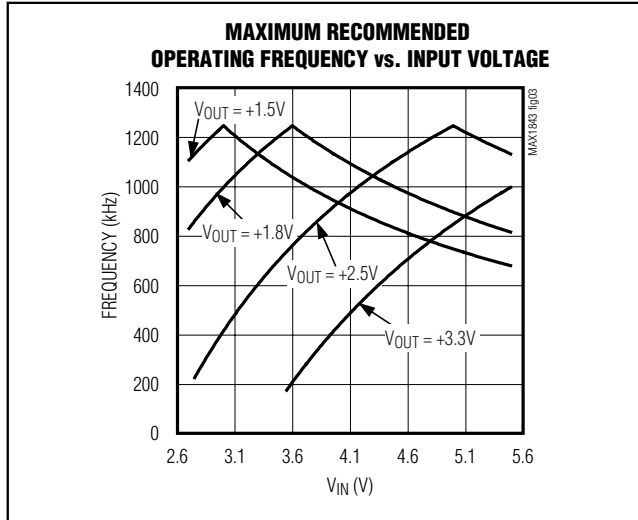

Figure 3. Maximum Recommended Operating Frequency vs. Input Voltage
- 1) Select the desired PWM-mode switching frequency. See Figure 3 for maximum operating frequency.